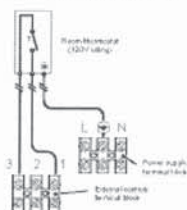

Figure 12.7
- The room thermostat must be connected to the "Control Terminal Block" (Fig 12.7).
- Connect the room thermostat between terminals 1 and 3 as shown in Fig. 12.7.